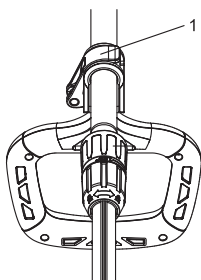

Fig. 4
**NOTE:** The assist handle mounting bracket can be slide up or down the telescoping tube, rotate from side to side or tilt forward or backward to place the assist handle in the most comfortable position. Turn locking lever(1) before adjusting the assist handle position and retighten it to lock the assist handle in the new position. (Fig.4)